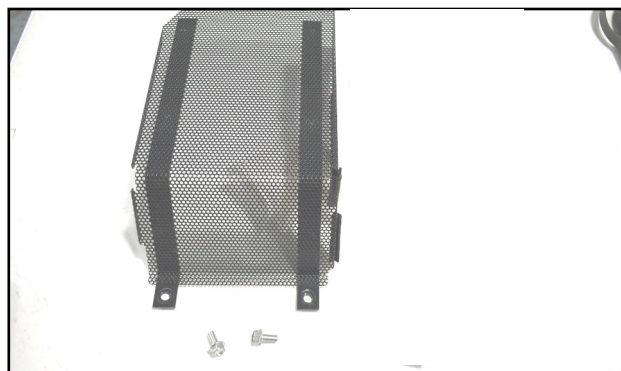

Fig. 17.4 (Engine Guard)
- 17.4 On the left side of tractor behind the radiator, remove the perforated sheet metal guard. See Figure 17.4.